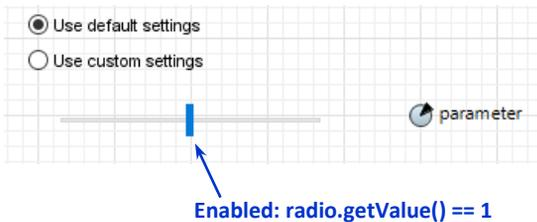

Figure 13.8 Radio buttons enable and disable the slider
3. Create a slider below the radio buttons as shown in Figure 13.8. You may need to adjust the radio buttons size to avoid overlapping with the slider.